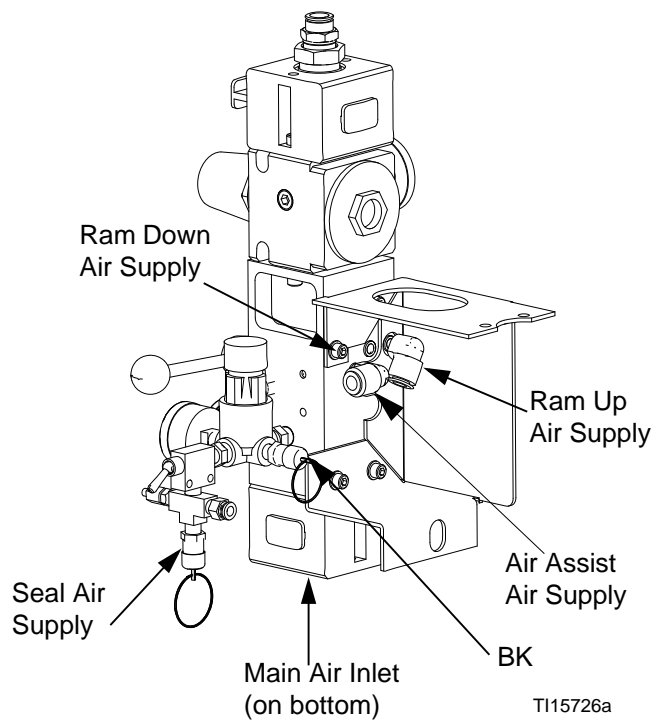
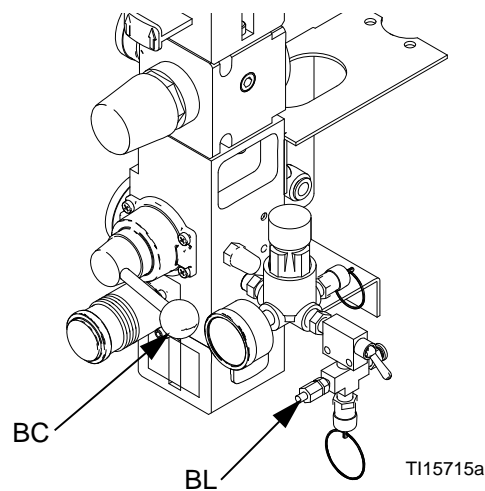

FIG. 3: Air Control Modules
FIG. 4. Seal Bleed Valve and Muffler with Valve
- H Enclosed Air Controls (*see Fig. 3; exposed air controls also available.*)
- H Enclosed Air Controls (see FIG. 3; *exposed air controls also available.*)
See FIG. 3. Air inlet size is 1/2 npt(f) on the Enclosed Air Controls and 3/4 npt(f) on the Exposed Air Controls. The integrated air controls include:
- **Main air valve (BA):** turns air on and off to the system. When closed, the valve relieves pressure downstream.
- **Ram air regulator (BB):** controls ram up and down pressure.
- **Ram director switch/valve (BC):** controls ram direction.
- **Exhaust port with muffler (BD)**
- **Air motor regulator (BE):** Controls air pressure to motor.
- **Air motor switch/slider valve (BF):** turns air on and off to the air motor. When closed, the valve relieves air trapped between it and the air motor.
- **Air assist valve (BG):** turns air on and off to push the ram plate out of an empty drum. Uses line air.
- **Inflatable seal air regulator (BH):** controls air pressure to the inflatable seal.
- **Inflatable seal switch (BJ):** controls the inflation and deflation of the ram plate seal.
- **Air relief valve (BK):** automatically relieves excessive pressure.
- **Seal bleed off valve (BL):** bleeds air from inflatable seal as needed for drum tapering. For Exposed Air Control Modules, See FIG. 3. For Enclosed Air Control Modules, the valve is located inside the box. See FIG. 4, page 16.
- **Muffler with needle valve (BN):** Allows adjustment of travel rate when lowering the ram plate. Located inside the box on the Enclosed Air Control Module. Not needed with the Exposed Air Control Module because ram rate can be adjusted with the director valve.
1. **Enclosed Air Controls:** See FIG. 3. Turn the air motor switch (BF) to off.
**Exposed Air Controls:** See FIG. 3. Close the air motor slider valve (BF).
2. Back the ram director air regulator down to zero. Set the ram director switch/valve (BC) to DOWN. The ram will slowly drop.
4. Turn the inflatable seal switch (BJ) to off.
6. Close the main air valve (BA).
**NOTE: Enclosed Controls:** To increase or decrease the speed of downward travel on the ram plate, adjust the valve on the muffler (BN) inside the control box. See FIG. 4, page 16.
**Exposed Controls:** To increase or decrease the speed of downward travel on the ram plate, adjust the director valve (BC).
See FIG. 3, page 12.